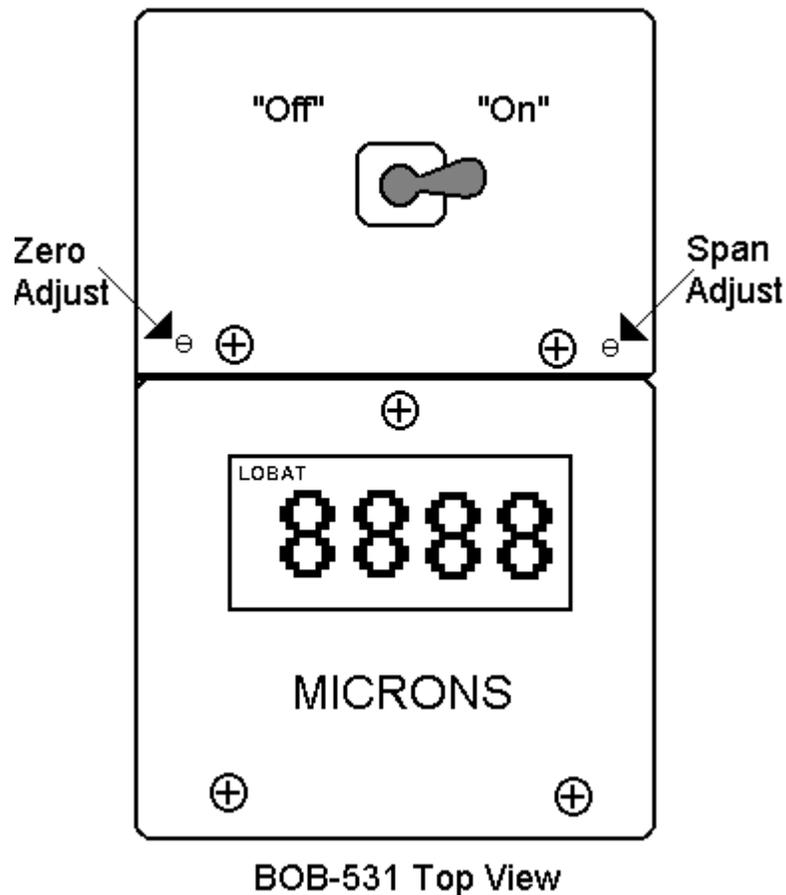

Figure 3: Top View Showing Adjustments, Low Battery Indicator and Power Switch
4. Turn the power switch to the "ON" position (see Figure 3, below)
There are no user replaceable parts in the BOB-531, except for the battery. The battery life is 80 hours typical with Power Switch “ON”. There is a “Low Battery” (LOBAT) indicator on the upper left side of the display. See Figure 3.